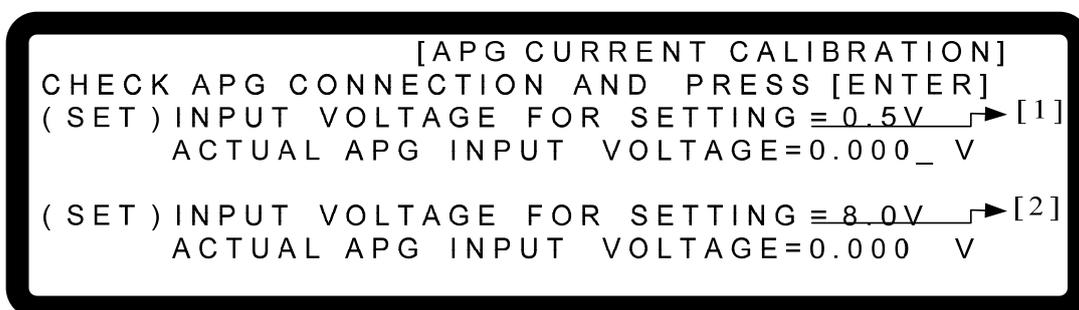

Figure 3-118
4. It will ask the user to input about 0.5V voltage signal (Pin 17). The cursor stops at position [1] as Figure 3-118 shows after pressed “ENTER” in the above step. Adjust the Power Supply to 0.5V±0.2V and use DVM1 to measure the reading of Power Supply. Input the voltage read by DVM 1 to position [1] and press “ENTER” to confirm.
5. Press “↵→” again will ask the user to input about 8.0V voltage signal (Pin 17). The cursor stops at position [2] as Figure 3-118 shows after pressed “ENTER” in the above step. Adjust the Power Supply to 8V±0.2V and use DVM1 to measure the reading of